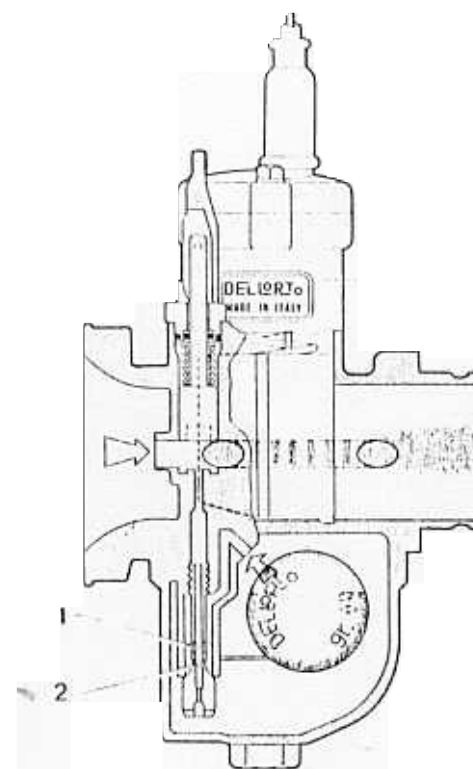

fig. 16
Figure 16 shows the mixture ratio depends entirely on the variety of drillings in the emulsion tube, because air passing through holes (2) draws up fuel which is standing in the jet well (1). In this period, the mixture strength is not determined by the starter jet size but only by the amount of fuel contained in the well above the holes located below the float-chamber fuel level.